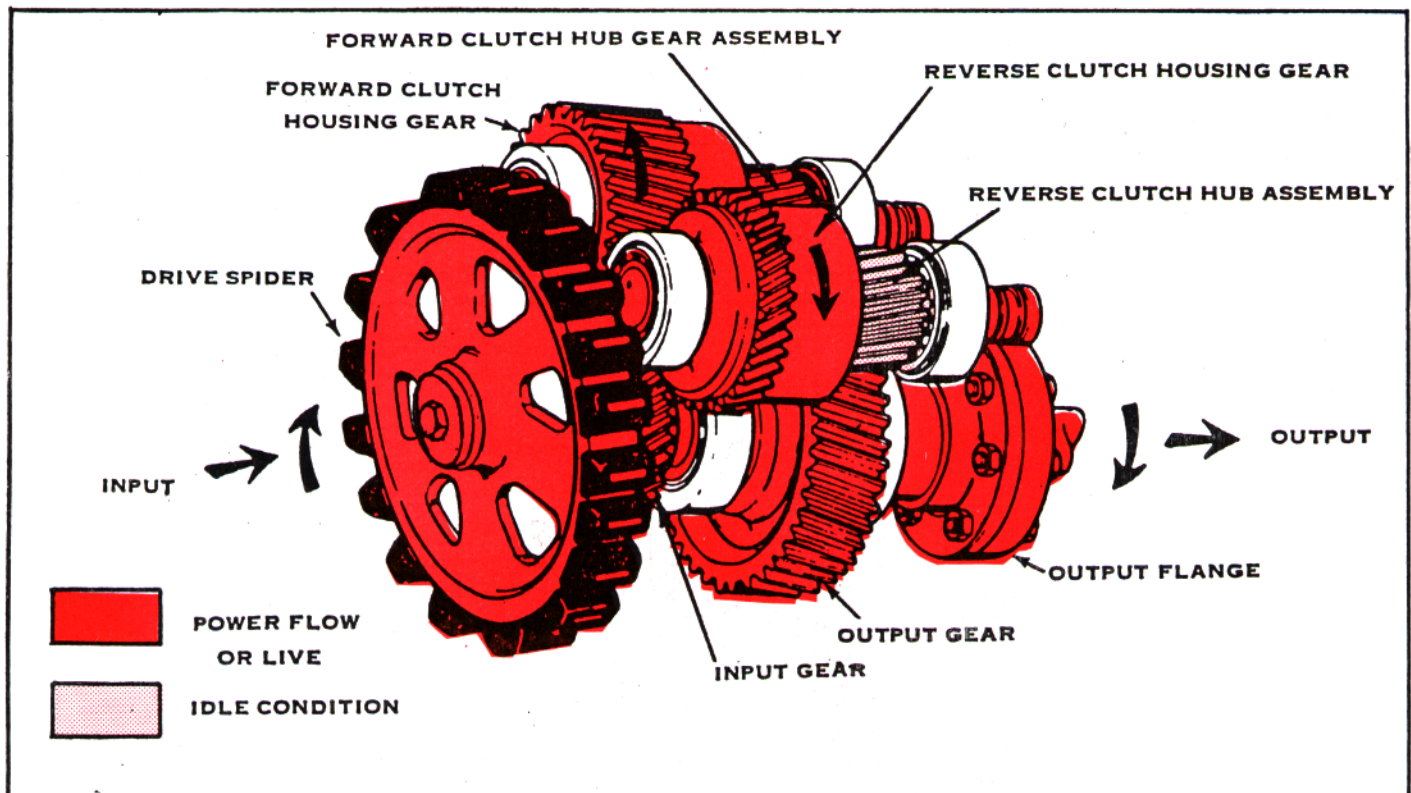

Figure 3-2. Model MG 506 A Marine Transmission Power Flow - Forward - Schematic view.
2. Forward. See Figure 3-2. When forward clutch is selected, all the marine transmission parts which were turning during neutral selection are still turning. However, when forward is selected, the forward clutch faced and metal plates are clamped together by the clutch piston and back plate. The internal teeth of the steel clutch plates are meshed with the smaller diameter external teeth of the clutch hub pinion assembly and turn the pinion gear at engine speed and in anti-engine direction. The larger external gear teeth of the pinion gear are in constant mesh with the output gear which is high press fit on the output shaft. The output flange is spline-connected to the output shaft and, therefore, the flange rotates in engine direction when in forward. The output shaft and flange rotate at a speed that is reduced from the engine speed due to the ratio between the pinion gear and the output gear.